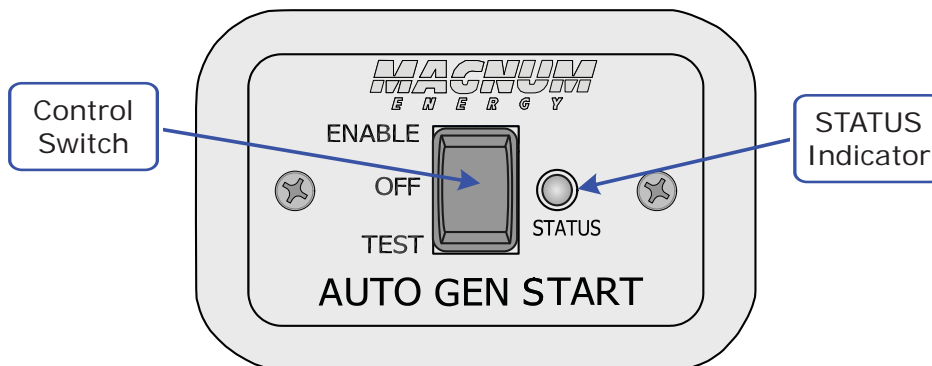

Figure 4-2, Remote Switch Front Panel Controls and Indicators
- b) the switch to the TEST position (on the Remote Switch - see Figure 4-2).
The AGS Remote Switch (see Figure 4-2) provides information and enables you to operate the controller. The Remote Switch receives its power from the controller thru the communications cable and comes on automatically when power is applied to the AGS controller.